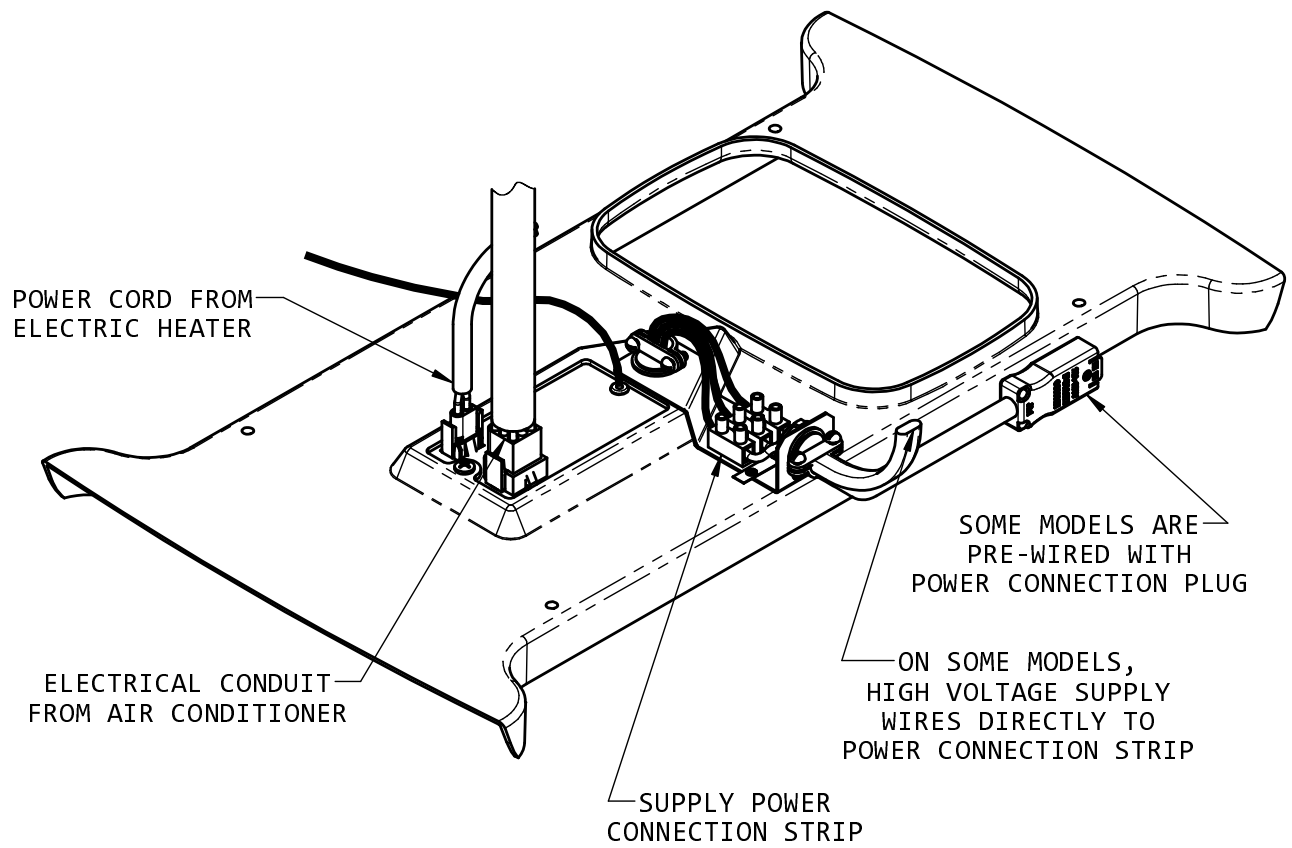

FIGURE 5
Refer to Figures 5 and 6
- C. Plug in the electrical conduit to the receptacle on the ceiling assembly chute. Plug in the heater cord from the upper unit to the receptacle on the ceiling shroud as shown in Figure 5.